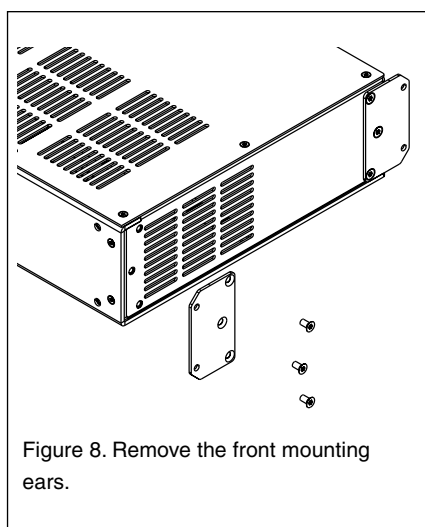

Figure 8. Remove the front mounting ears.
9. Remove the front mounting ears (see figure 8).